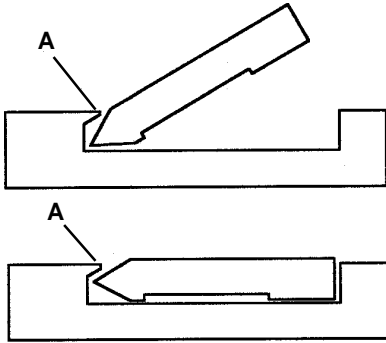

Figure 3
3. Hold a full stack of Framer's Points at an angle with the glue side down, and the sharp end of the points under the lip of the magazine groove as shown at **A** in Figure 3.